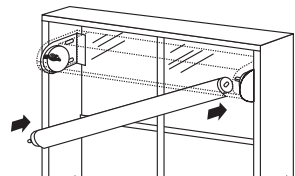

Fig 7
- a. Insert the clutch plug into the clutch unit (Fig 7).